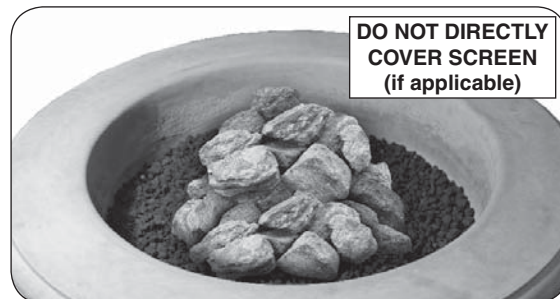

Fig. 29-3 Volcanic stones option
2. Pour the volcanic stones evenly into the burner area (see Fig. 29-3). The stones may form a mound. **Store any excess media in a safe location.**